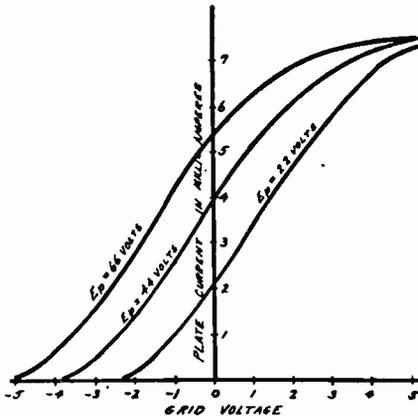

Fig. 20—Grid Voltage. Plate Current Characteristic Curve of a Vacuum Tube.
By plotting them on cross-section paper, we will obtain a curve like the curved marked  $E_p = 44$  volts in Figure 20.
10. What is the plate current for the Ep 44-volt plate curve when the grid voltage is zero (0) in Figure 20?